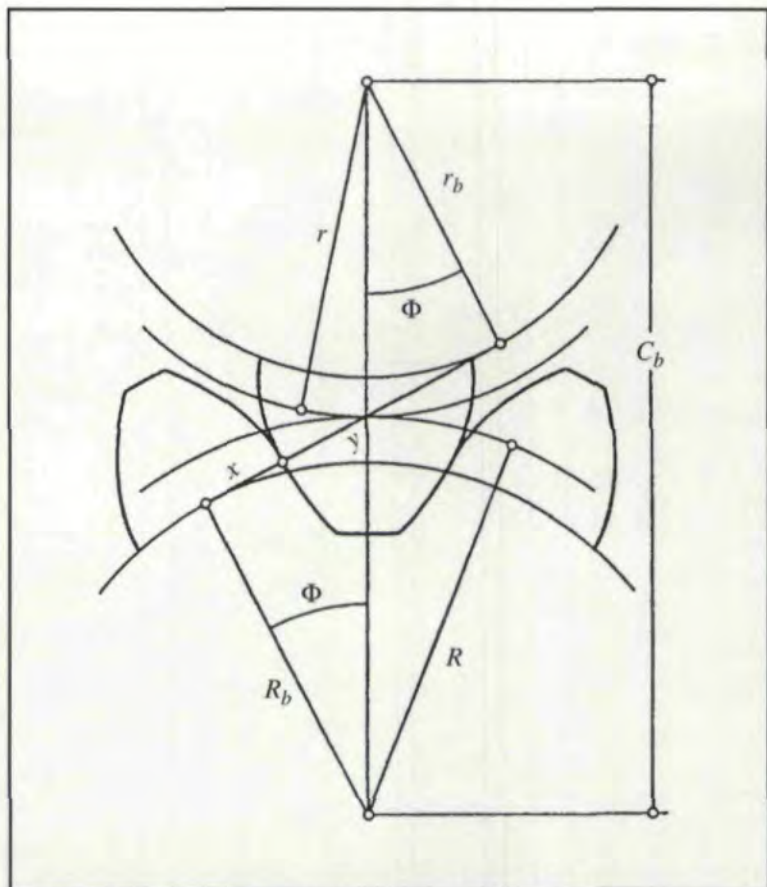
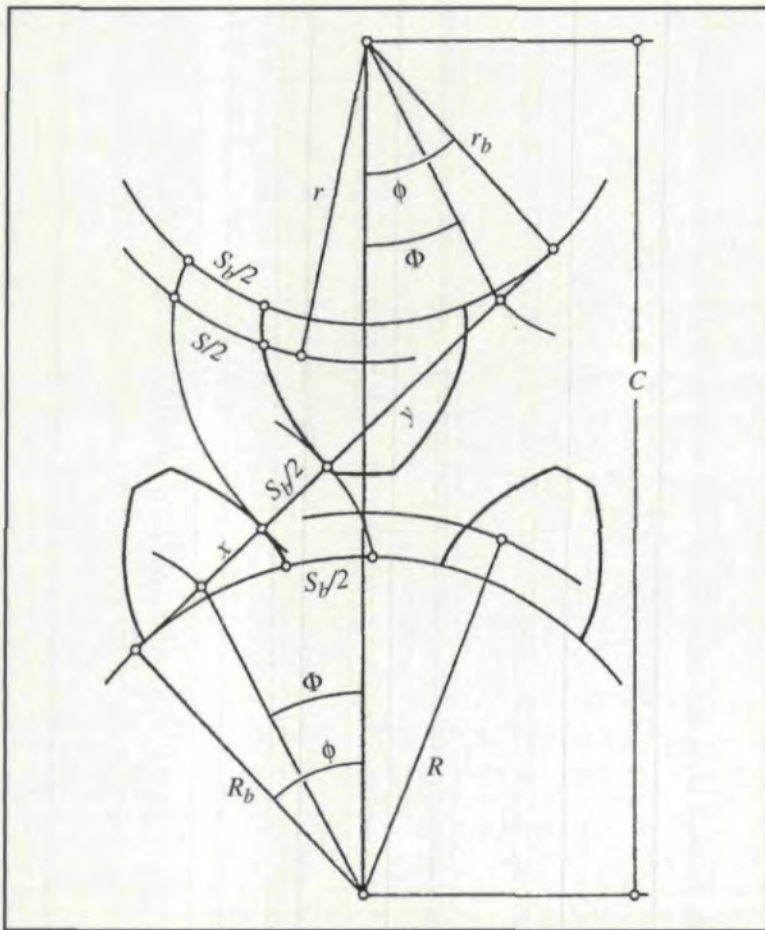

Fig. 1 — Reference circles and tooth profiles in contact.
Fig. 2 — Effect of an increase in center distance.
A very simple way of treating backlash is to start with no backlash (Fig. 1) and then examine the effect of an increase in center distance (Fig. 2).
In Fig. 1 the terms *basic center distance* (C_b), *profile angle* (Φ) and *reference circle* — which have been around for at least 30 years (Refs. 1–2) — are used in lieu of *standard center distance*, *standard pressure angle* and *standard pitch circle*. Consequently, in Fig. 2 there is no need for the qualifying adjective *operating*, which means that *operating center distance*, *operating pressure angle* and *operating pitch circle* can be shortened to *center distance* (C), *pressure angle* (ϕ) and *pitch circle*.
From Fig. 1 it is seen that
and from Fig. 2 that
From Fig. 2 and from the definition of the involute (the curve generated by a point on a string as it is being unwound from a circle), it is seen that $S_b/2$ can be wrapped onto either base circle. Consequently, with the gear fixed, the pinion is free to rotate $S_b/2r_b$ radians, both CW and CCW, or S_b/r_b total. Likewise, with the pinion fixed, the gear is free to rotate $S_b/2R_b$ radians, both CW and CCW, or S_b/R_b total.
The relation of an arc on the reference circle to an arc on the base circle is shown in Fig. 2, where it is seen that arcs $S_b/2$ and $S/2$ subtend equal angles. Specifically, for the pinion,
where, from Fig. 1, the $r_b = r \cos \Phi$, so that $S_b = S \cos \Phi$. Similarly, for Δt_b and B_b in Eq. 2, $\Delta t_b = \Delta t \cos \Phi$ and $B_b = B \cos \Phi$. Likewise,
where, from Fig. 1, the $R_b = R \cos \Phi$, so that $S_b = S \cos \Phi$, $\Delta T_b = \Delta T \cos \Phi$ and $B_b = B \cos \Phi$. Thus, from Eqs. 1 and 2 it is seen that
where, from Figs. 1 and 2, the